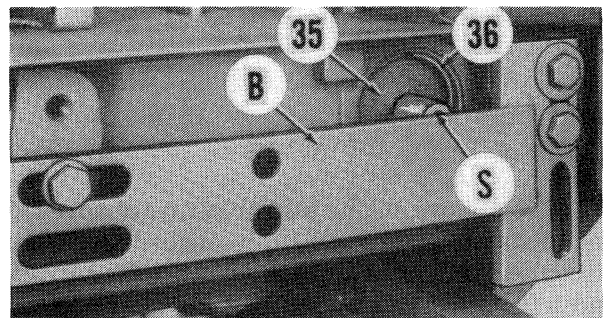

Fig. 39—Use a spacer (S) and bar (B) attached to frame mounting holes to push piston plug (35) in so snap ring (36) can be removed or installed.
To disassemble, loosen cap screw securing steering arm (3) to spindle (4). Detach tie rods from steering arm if axle was not removed. Remove cap screws securing bearing retainer (15), then remove spindle assembly from housing. Remove steering arm and separate spindle and bearing from retainer. Remove washers (37). Attach a bar (B—Fig. 39) between frame mounting holes and use a spacer (S) to push piston plugs inward until retaining snap ring can be removed. Remove piston plug with "O" rings and back-up rings. Center piston (31—Fig. 37 or 38) and feedback piston (43) so pin (40) is aligned with notch in
Install back-up rings (30) and "O" rings (29) in grooves of piston. Be sure back-up rings are toward center of piston. Coat piston and seal with clean hydraulic oil. Using JDH-52 piston installing tool, push piston into the sleeves in one continuous motion. Make certain the two countersunk holes in piston are toward the right side. Turn the piston to align the hole in piston with the notch in housing, then slide spring (39) and pin (40) into hole in piston. Turn piston so pin engages the groove in feedback piston. Install feedback piston plug (46) and secure with snap ring (47). Assemble back-up ring (34) and "O" ring (33) on piston plug (35) with "O" ring to the inside. Install spring washer (32) and plug into housing bore. Use bar and spacer as shown in Fig. 39 to compress spring washer enough to install retaining snap ring. Install washers (37—Fig. 37).